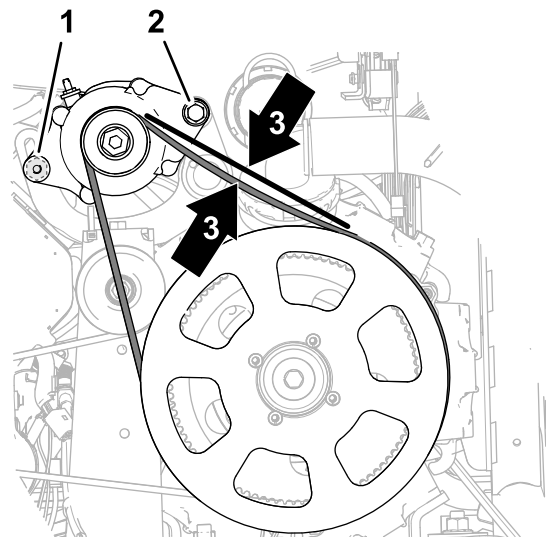

Figure 183
4. Rotate the alternator (Figure 183) up to increase tension on the belt until you measure belt 9.5 mm (3/8 inch) of belt deflection when you apply 4.5 kg (10 lb) halfway between the alternator pulley and drive pulley 279 mm (11 inch).